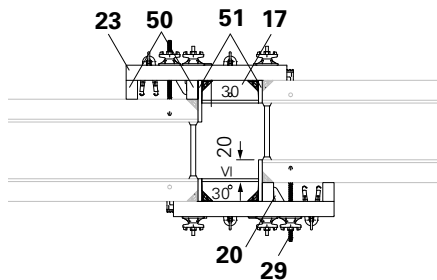

Fig. A10.01
- Compensation Waler TAR 85 (23)
- Hook Tie DW 15/400 (29)
- Compensation provided by the contractor (50)
- Filler Plate (51)
- Panel TR 30 (17)
- Additional BFD (20) from 12 cm
- (Fig. A10.01)